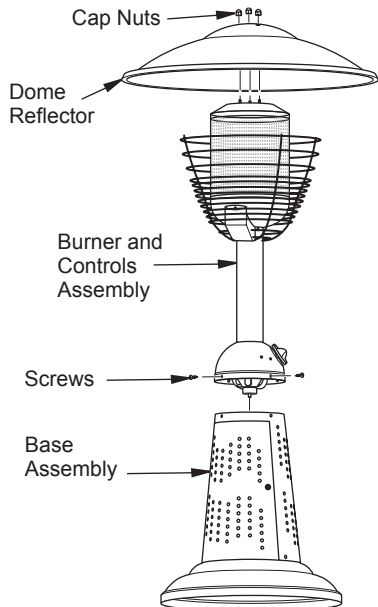

Figure 3 - Heater Assembly
1. Attach burner and controls assembly to base assembly with 4 screws (see Figure 3). Tighten screws. Place operating instruction label under control knob for easy review.
2. Align 3 dome holes with the 3 studs protruding from burner top (see Figure 3). Place dome onto the studs. Install 3 cap nuts onto studs. Tighten with pliers.
3. Remove four screws securing burner assembly to base assembly (see Figure 3, page 5).